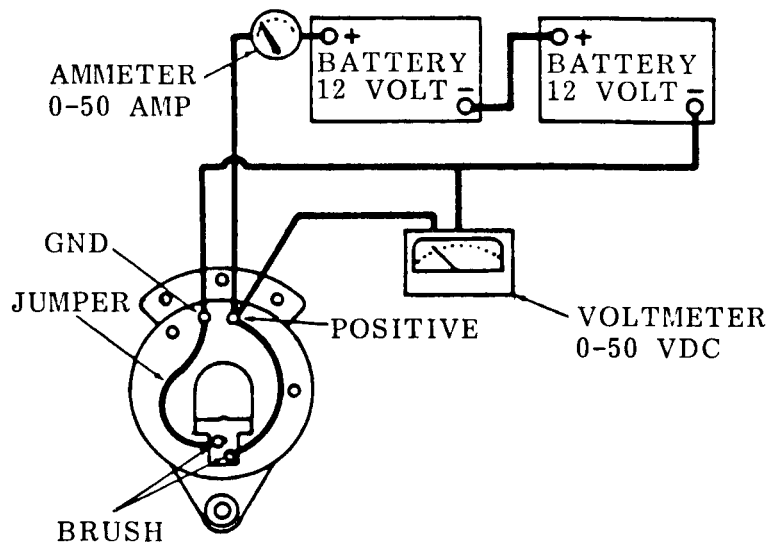

Figure 7-13. Faulty Voltage Regulator Circuit Test.
- (e) If voltmeter indication is as specified, proceed with voltage regulator, alternator output, and voltage protector test as outlined in step (9) below,
- (7) Test for faulty alternator voltage regulator as follows:
- (d) Install a jumper wire from the GND terminal to brush terminal as shown in figure 7-13.
- (e) Install alternator in test circuit as shown in figure 7-13.